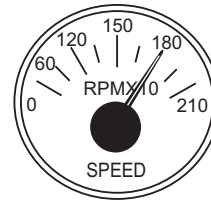

Figure 52. Engine Tachometer Gauge
9. The **tachometer gauge** (Figure 52) will indicate the speed of the engine when the generator is operating. Under normal operating conditions this speed is approximately 1,800 rpm.